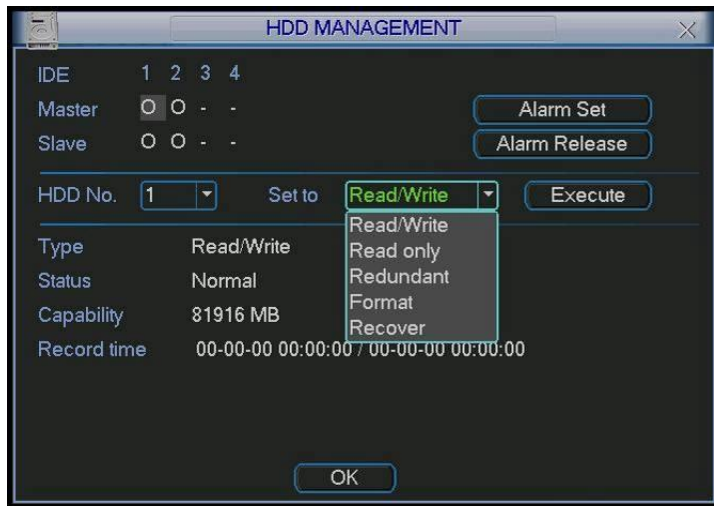

Figure 4-13
In the Main Menu go to Advanced then to HDD Management where you can set one or more disk(s) as redundancy disks. You can select from the dropdown list. See Figure 4-13. System auto overwrites old files once hard disk is full.
- Set redundant disk(s) as read-only disk or read-write disk (Main menu->Advanced->HDD management). See Figure 4-13. System needs to reboot to get setup activated. Now you can search or playback file in redundant disk.